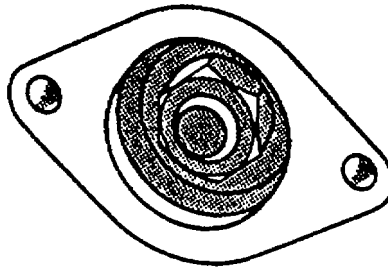

FIGURE 3-62. Fuel Injection Pump Gear Access (Cover Removed)
- l. The following steps cover injection pump removal with timing cover removed, refer to FIGURE 3-62.
- (1). Remove injection pump cover plate from timing gear cover, refer to FIGURE 3-62, cover shown removed.